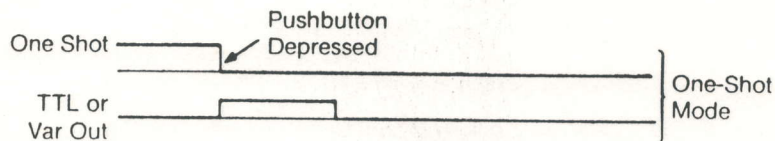

Figure 5. One-Shot Waveforms.
In the One-Shot mode, the mode switch is latched and the One-Shot pushbutton (5), when pressed, initiates an output pulse. Pulse parameters are set by the Pulse Width (11) and Width Vernier controls. Pulse Spacing and Spacing Vernier controls are not active. (See Figure 5)